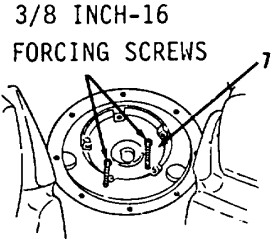

Figure 5-118.
2. Bend five locks (6) away from bolts (5).
3. Remove five bolts (5) and locks (6).
4. Install two 3/8-16 forcing screws to remove retainer (7, Figure 5-118).
6. Remove two 3/8-16 forcing screws (Figure 5-118).